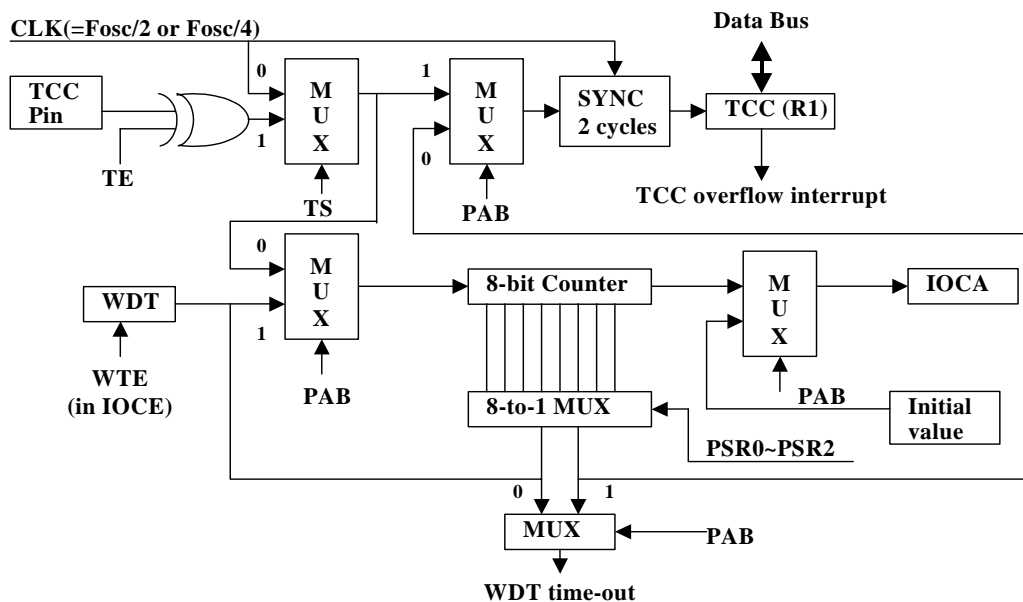

Fig. 5 Block Diagram of TCC and WDT
An 8-bit counter available as prescaler for the TCC or WDT. The prescaler is available for either the TCC or WDT only at any given time, and the PAB bit of the CONT register is used to determine the prescaler assignment. The PSR0~PSR2 bits determine the ratio. The prescaler is cleared each time the instruction is written to TCC under TCC mode. The WDT and prescaler, when assigned to WDT mode, are cleared by the "WDTC" or "SLEP" instructions. Fig. 5 depicts the circuit diagram of TCC/WDT.
- R1 (TCC) is an 8-bit timer/counter. The clock source of TCC can be internal or external clock input (edge selectable from TCC pin). If TCC signal source is from internal clock, TCC will increase by 1 at every instruction cycle (without prescaler). Referring to Fig. 5, CLK=Fosc/2 or CLK=Fosc/4 application is determined by the CODE Option bit CLK status. CLK=Fosc/2 is used if CLK bit is "0", and